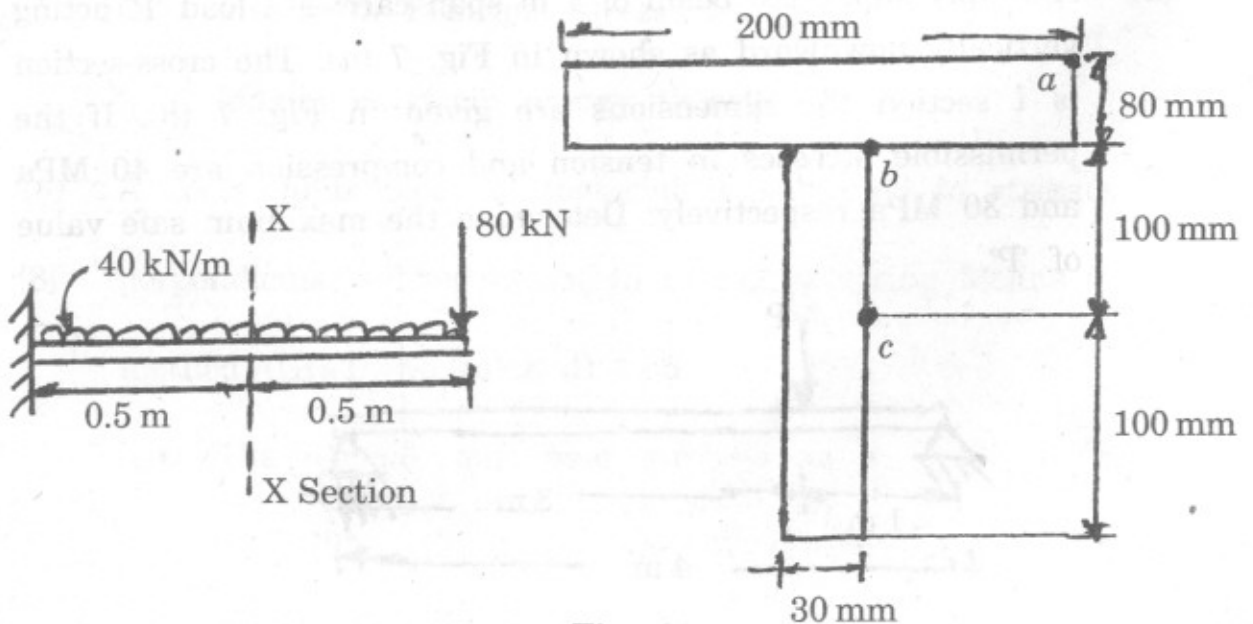

Fig. 8
- (b) A cantilever beam of negligible self-weight carries uniform distributed load 40 kN/m over entire span of 1 m and also has a concentrated load 80 kN at free end, find shear stresses along horizontal planes passing through points *a*, *b* and *c*. Section of beam and the points are shown in Fig. 8. [8]